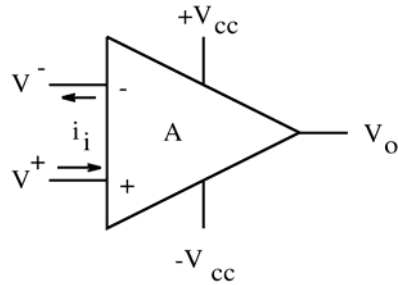
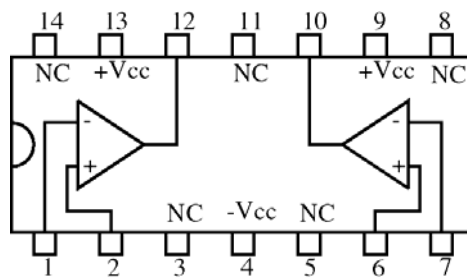
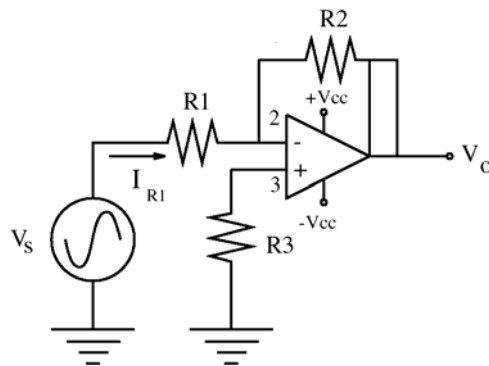
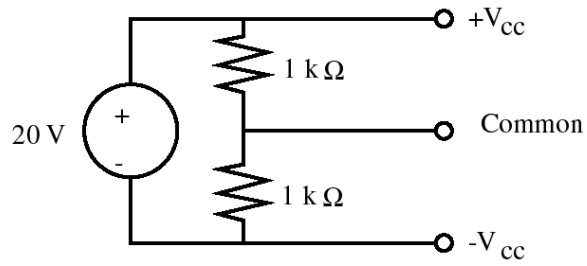

Figure 3: Operational Amplifier
Figure 4: 747 Operational Amplifier
Figure 5: Inverting operational amplifier circuit
Figure 8: Power supply circuit
Figure 3 shows an operational amplifier with an open-loop voltage gain **A**. The terminals labeled  $+v_{cc}$  and  $-v_{cc}$  are power supply connections to the op-amp and set limits on the voltage which can be produced at the output node. The op-amp we will be using is the 747 as shown in Figure 4. The 747 is a dual op-amp integrated circuit (IC) containing two 741 op-amps.
Figure 5 shows an op-amp in the inverting configuration along with the power supply connections  $+v_{cc}$  and  $-v_{cc}$ . Future circuit diagrams will show only the signal portion of the circuit with the understanding that the power supply connections are required for proper operation of the circuit. To analyze this circuit, we will use Kirchhoff's Current Law (KCL) to determine the output node voltage  $v_o$  and the circuit voltage gain given by the formula
For this experiment, you will need a power supply which can provide +10 volts, -10 volts and a **common** ground. However, the power supply at your station is not equipped to provide both positive and negative 10 volts relative to earth ground. So we are going to "trick" the op-amp circuit by a clever use of a single power supply. Assemble the circuit shown in Figure 8. From the standpoint of the bench (20 V) power supply,  $-v_{cc}$  is ground, **common** is 10 volts and  $+v_{cc}$  is 20 volts. However, from the standpoint of the op-amp, **common** will be used as ground (not the same as earth ground) so that  $+v_{cc}$  is now only 10 volts and  $-v_{cc}$  is -10 volts. We have switched reference frames so that  $+v_{cc}$  is now only 10 volts and  $-v_{cc}$  is -10 volts. Measure and record the values of  $-v_{cc}$  and  $+v_{cc}$  using **common** as the reference (ground) node.
- 1) Select, measure, and record the values of three resistors,  $R_1 = 5k\Omega$ ,  $R_2 = 20k\Omega$  and  $R_3 = 5k\Omega$ . Obtain a 747 op-amp. Assemble the circuit shown in Figure 5. Be sure to include the power connections  $+v_{cc}$  and  $-v_{cc}$  from the power supply circuit of Figure 8 to  $+v_{cc}$  and  $-v_{cc}$  of the 747 chip as shown in Figure 4. In addition, the **ground** nodes shown in Figure 5 are to be connected to the common node of Figure 8. Note that Figure 4 shows two  $+v_{cc}$
- 7) Build the power splitter shown in Figure 8 on your project board.